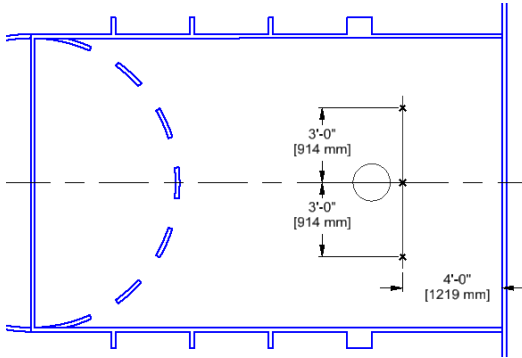

Figure 14
- Using masking tape and pencil, Mark the location of the center of the court 4'-0" [1219 mm] from the inside edge of the court baseline (refer to figure 14). From this center mark, establish a mark 3'-0" [914 mm] to the left and another mark 3'-0" [914 mm] to the right. These marks will be used to align the face of bank to the court.